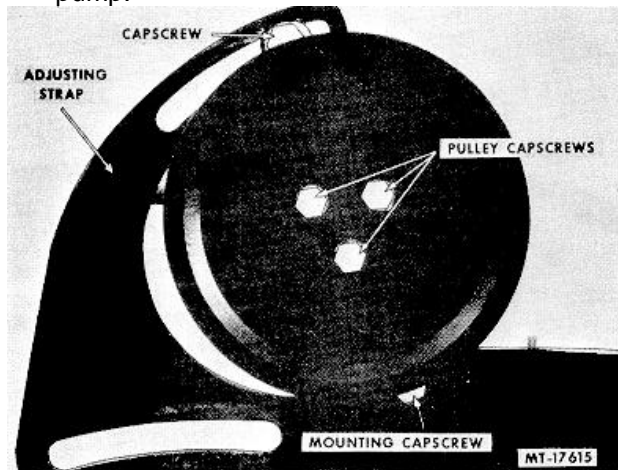

Fig. 15 Removing Air Pump Pulley and Air Pump
10. Remove air pump pulley from pump by removing three capscrews (Fig. 15). Then remove air pump adjusting strap capscrew and mounting capscrew (Fig. 15). Then remove air pump.